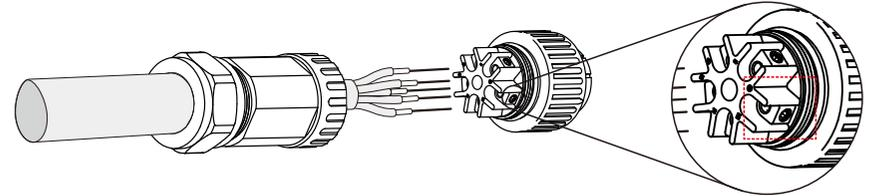

Figure 5.22 Connected cable
A) Stripped the insulation sleeve of cable for 70mm, so that bared copper-cored connector reaches for 9mm. Cable through nut and sleeve of socket element, insert corresponding terminals and tighten with allen wrench (see figure 5.22). Torque is 1.8-2.0Nm.
Tighten cable with 3.0 mm allen wrench( focus in dotted box, see figure 5.22). Allen screw is easy to drop off, don't screw out completely.